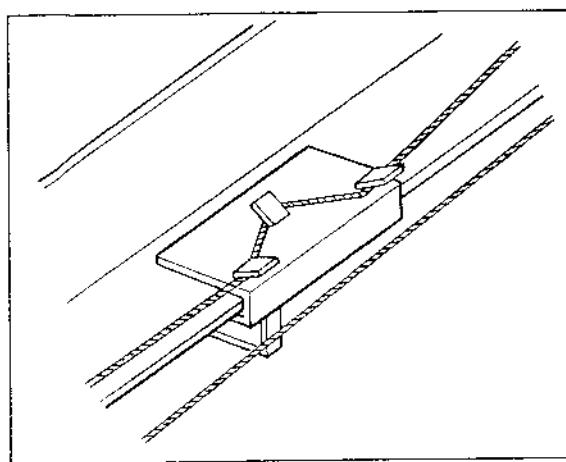

Fig. 2-10. Dial pointer installation
8. Put the dial pointer on the cord as shown in Fig. 2-10, and then tune the set to the local fm station. Move the dial pointer to the position where the pointer indicates the local station's carrier frequency. Apply a drop of contact cement to it.